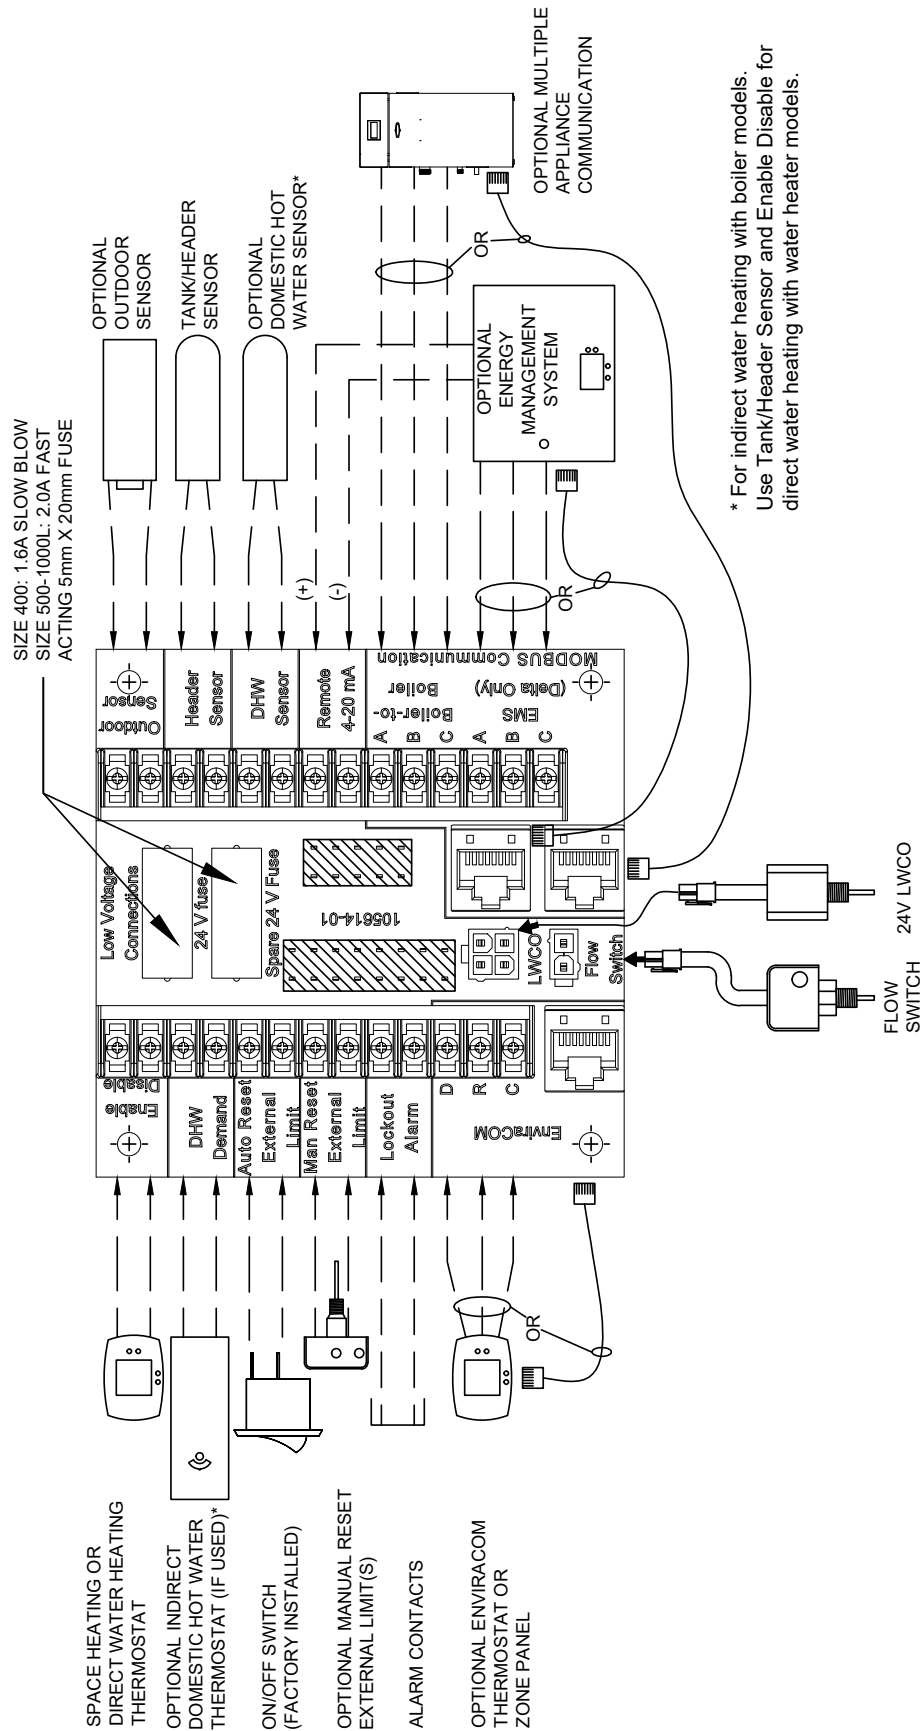

Figure 26: 400-1000 Low Voltage Connections PCB
- a. Low voltage PCB has connections for the tank sensor, external limits, Alarm, 4-20 mA, etc. One 24V fuse and spare are provided. See Figure 26.